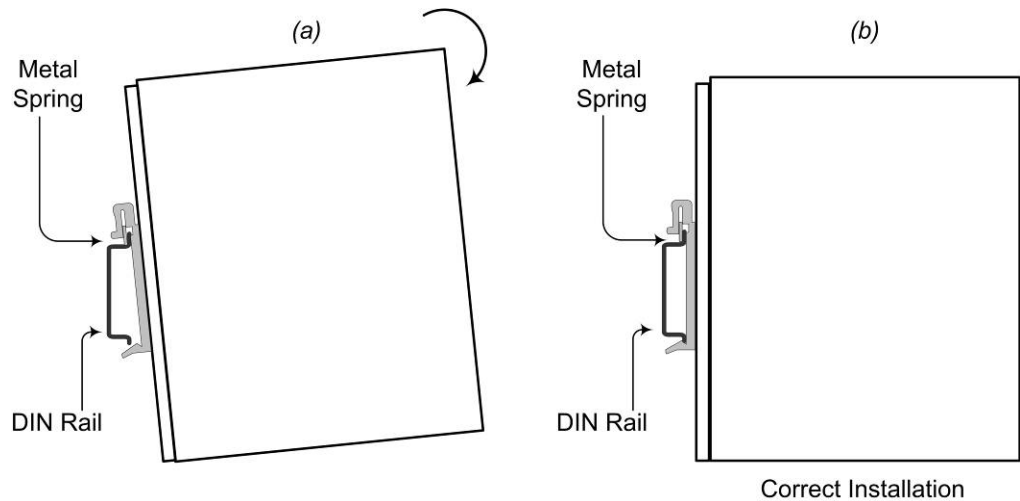

Figure 5: Industrial PoE Switch Mounting to DIN Rail
DIN rail mounting To mount the Industrial PoE Switch to the DIN rail, see Figure 5 and do the following:
1.	Align and then position DIN-Rail-clip spring to the top of the DIN rail as shown in Figure 5, step (a).
2.	Press DOWN on the Industrial PoE Switch and then IN to snap it into place on the DIN Rail. See Figure 5, step (b).